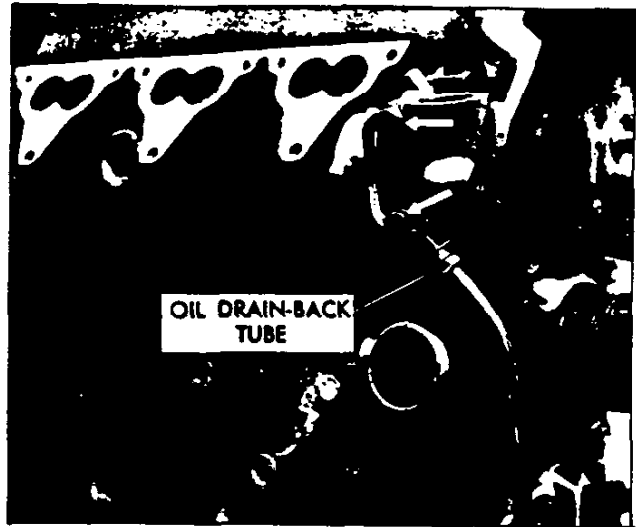

Fig 12—Oil Drain-Back Tube
2. Disconnect distributor drive housing, oil drain-back tube from carrier (fig. 12).